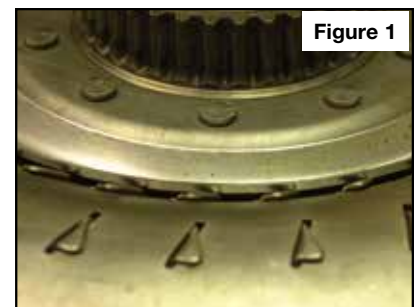

Figure 1
- a. In its unmodified form, the I.D. of **GM-WS-39** will contact the turbine first and will leave a gap at the O.D. of the plate. (**Figure 1**) This gap will make it difficult to obtain a good weld at the O.D. of the stiffener plate. For a better fit, the **GM-WS-39** needs to be flattened a small amount.